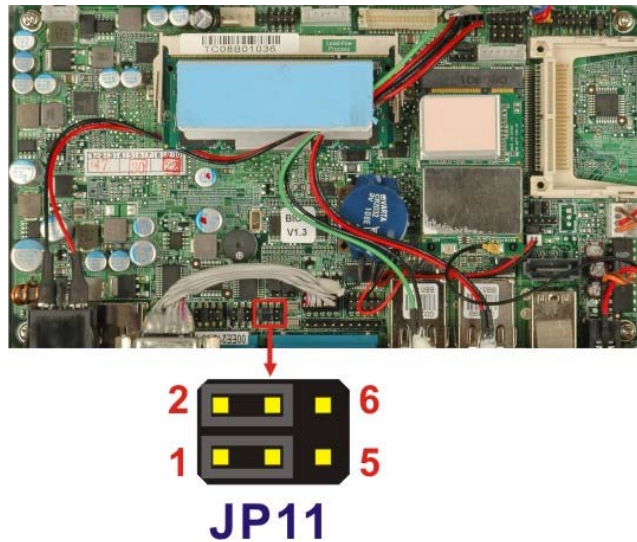

Figure 3-7: COM3 TX Function Select Jumper Pinout Locations
- Jumper Location:** See **Figure 3-7**
The COM3 TX Function Select jumper location is shown in **Figure 3-7** below.